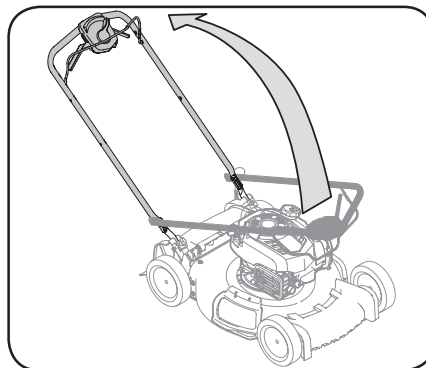

Figure 2-2
3. While stabilizing mower so it doesn't move, pivot upper handle up as shown in Figure 2-2. Do not crimp cables while lifting the handle up and make sure they go on the outside of the handle.